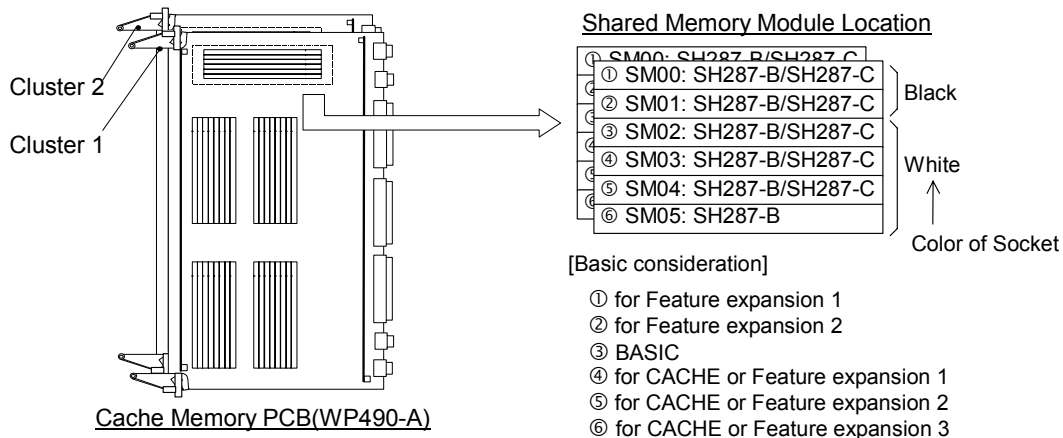

Fig. 1.1.2.3-3 Actual location of shared memory module
Note. 1: Location ①-⑥ shows actual location of shared memory module on Cache PCB. (Refer to Fig. 1.1.2.3-3)